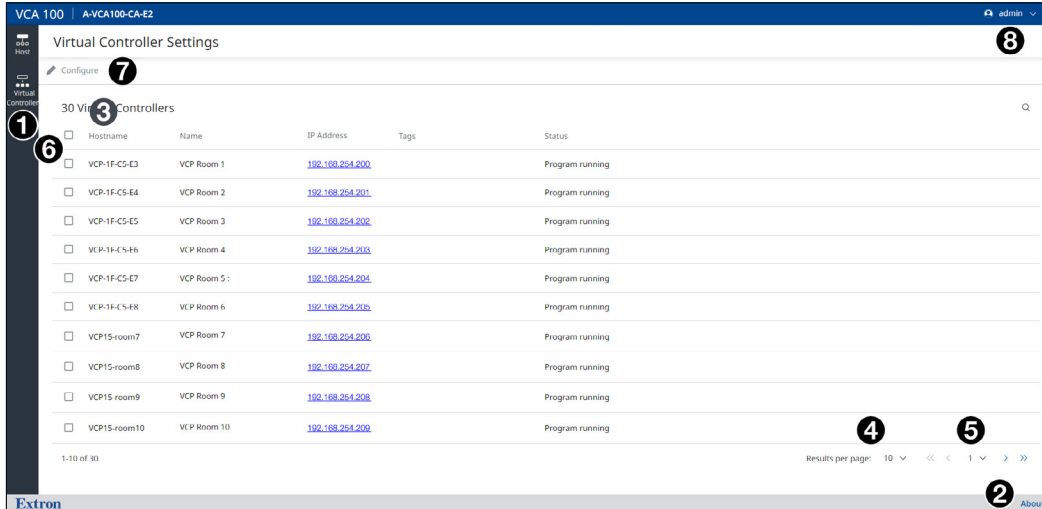
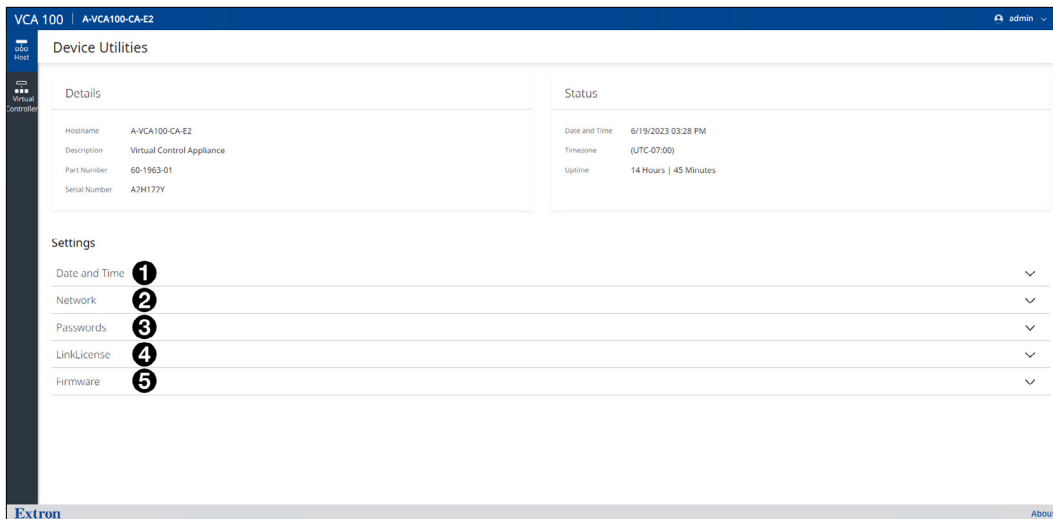

Figure 6. VCA 100 Internal Web Pages — Home
Figure 7. VCA 100 Home Page
All the internal Web Pages show the menu bar (see figure 6, 1), the **About** link (2), and the user type (8). The **About** link opens the **About Page** (see page 22), which provides information about the VCA 100. The user type shows either user or admin. Click on **admin** or **user** to see the log out option.
The Home page provides either an overview of the VCA 100 (see figure 7) or a list of the currently available VCPs (shown in figure 6).